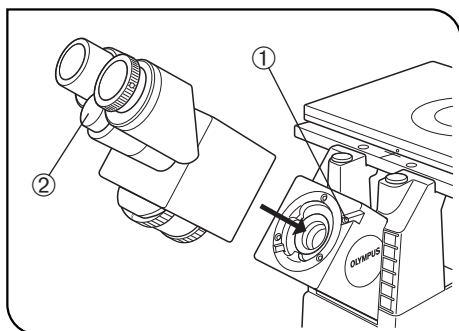

Fig. 96
(Figs. 96 to 99)
(Figs. 96 & 97)
1. Using the Allen screwdriver, loosen the observation tube clamping screw ① on the observation tube mount. (Fig. 96)
2. Attach the circular dovetail mount of the observation tube into the observation tube mount, placing the observation tube so that the interpupillary distance scale numbers ② are seen right side up. Then tighten the clamping screw to clamp the observation tube.